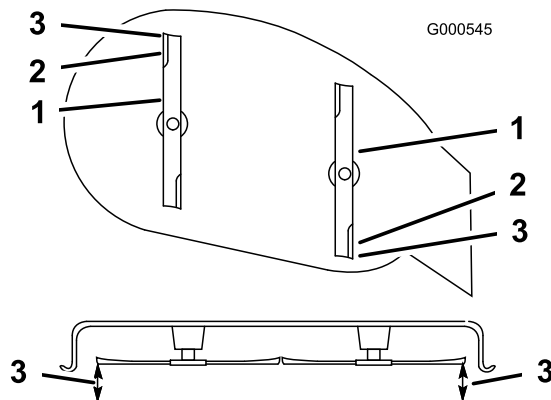

Figure 41
5. Set the height-of-cut at position **D** [3 inch (76 mm)] and carefully rotate the blades so they are facing front to rear (Figure 41).
- Measure from the tip of the front blade to the flat surface and the tip of the rear blade to the flat surface (Figure 41). If the front blade tip is not 1/16-5/16 inch (1.6-7.9 mm) lower than the rear blade tip, adjust the front locknut.
is 1/16-5/16 inch (1.6-7.9 mm) lower than the rear blade tip (Figure 41).